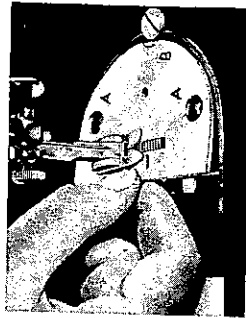

Fig. 5
c. Lift up needle plate (Fig. 5) and move it to the left, thus freeing it from its locating screws "A".